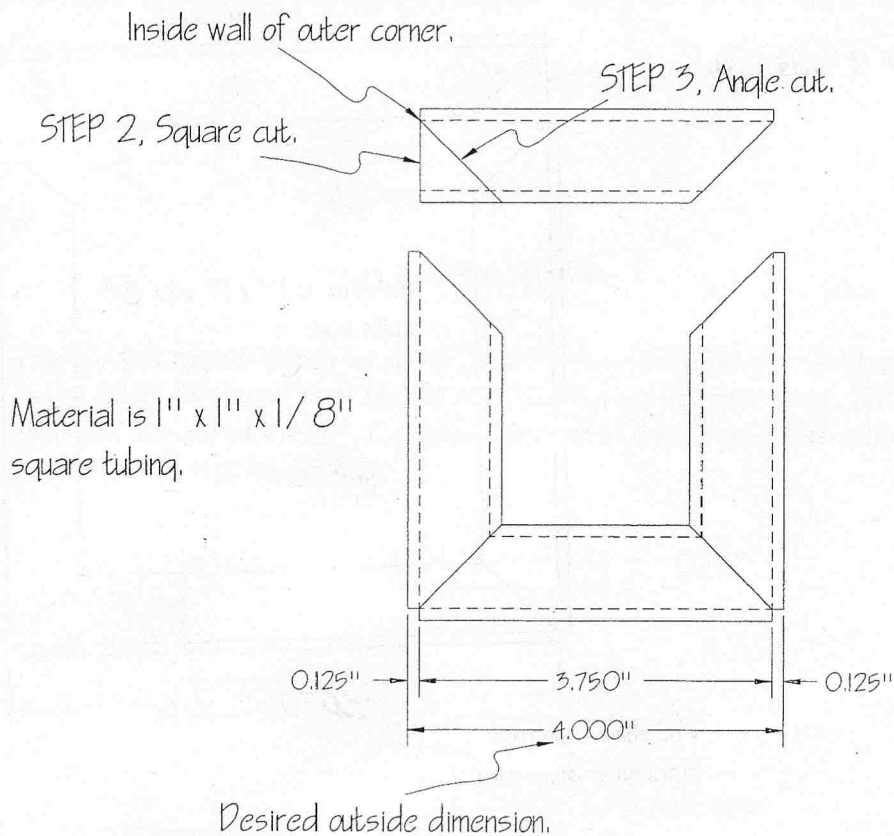

Figure 1. Square tubing corner cutting illustration.
1. Determine the outside dimension you want to end up with. Refer to Figure 1.